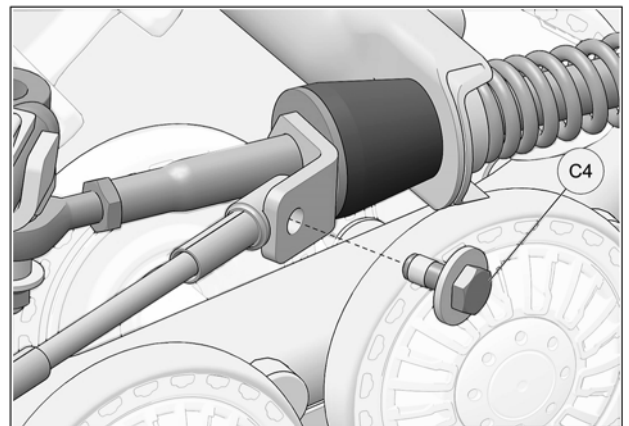

Fig. 27
16. Reverse steering wheel a little to be able to bolt support plate and cable together. Tighten provided bolt (C4) to 35 N•m [24 lb•ft]. See Fig. 27. Repeat steps on right side.